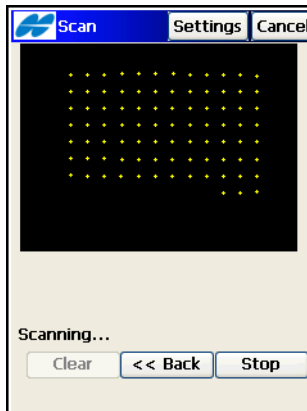

Figure 8-70. Scanning without Images
4. View the scanning in progress. As the total station measures points within the pre-defined area, each point will display on the screen (Figure 8-70).